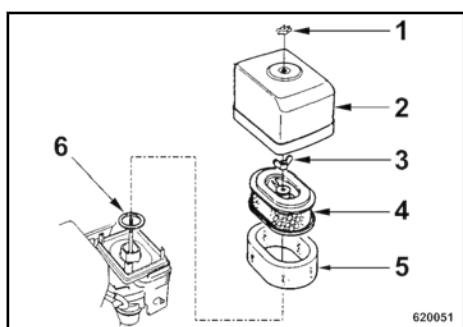

Fig. 68
Unscrew wing nut (1) ↗ Fig. 68 and remove the housing cover (2).